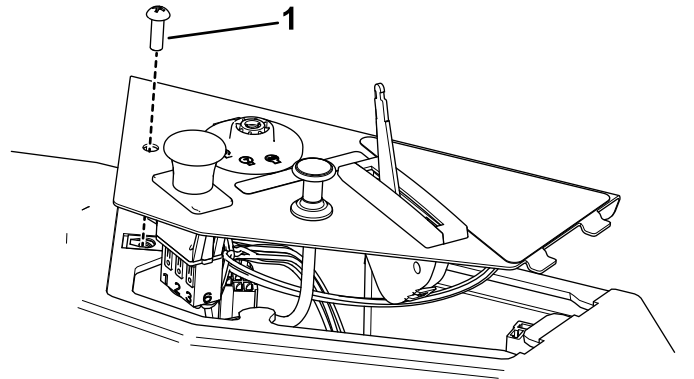

Figure 4
1. Remove the screw securing the control panel, then lift the control panel to access the wire harness (Figure 4).
4. Install the control panel and secure it with the screw previously removed (Figure 4).